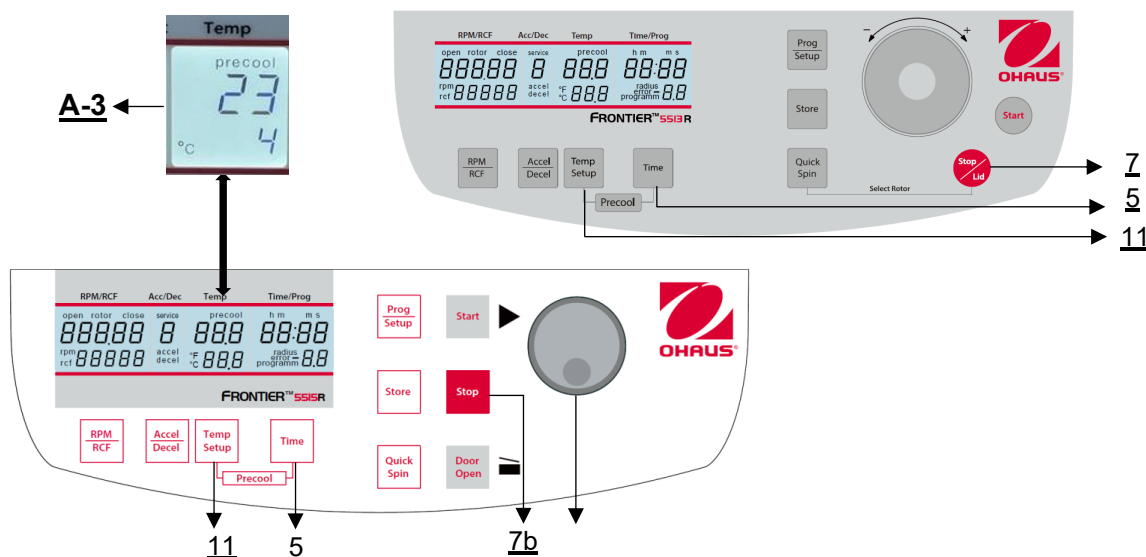

Figure 16
If the samples are temperature-sensitive it is useful to pre-cool the centrifuge, the rotor and eventually the buckets to the required working temperature. Therefore, insert the desired rotor and pre-set the respective temperature. By simultaneous pressing the keys **"Temp/Setup"** (11) and **"Time"** (5) you can start the run (**Figure 16**). While running, the unit chooses automatically a rotational speed that is equivalent to 30 or 50 % of the permitted rotational speed of the respective rotor (depending on the rotor). After the pre-set temperature is reached you can leave the pre-cooling run with the key **"Stop"** (7b) or **"Stop | Lid"** (7).